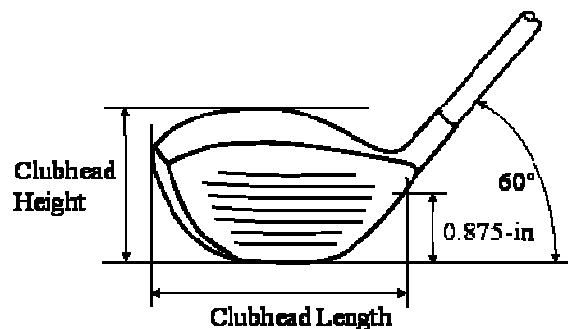

Figure 6.0.1– Convention for Clubhead Measurement
6.0.1 The length (heel-to-toe) and height (sole-to-crown) of the clubhead is measured with the head positioned at a 60 degree lie angle. If the outermost point of the heel is not clearly defined, it will be deemed to be 0.875 inches above the horizontal plane on which the club is lying, Figure 6.0.1.